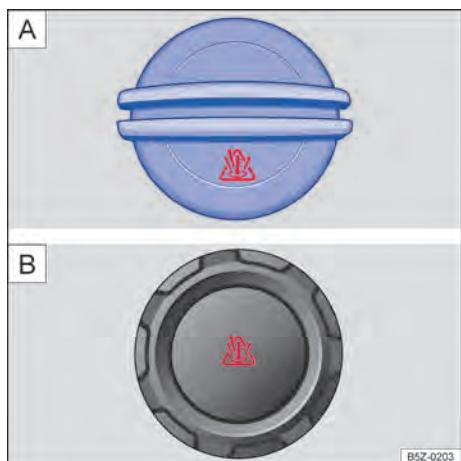

Fig. 191 On the engine compartment: **A** cap of the engine coolant expansion reservoir (variant 1) or **B** cap of the engine coolant expansion reservoir (variant 2)
- The coolant expansion tank has the  symbol on its cap → Fig. 191.